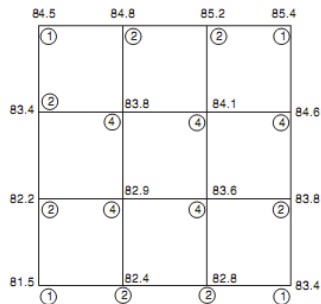

Fig. 18.14
■ **Example 18.8:** A  $60\text{ m} \times 60\text{ m}$  plot is to be excavated to a formation level of  $80.0\text{ m}$ . The present levels at  $20\text{ m} \times 20\text{ m}$  grid are as shown in Fig. 18.14. Calculate the volume of earth work.